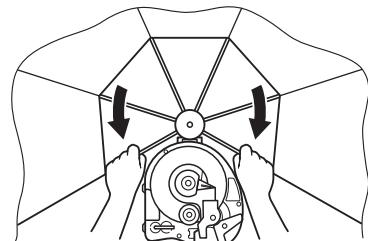

Fig. 18
- (2) Open the guard fully by pulling the arms as shown below until a click is heard. (Fig. 18)